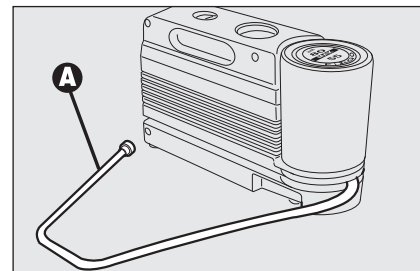
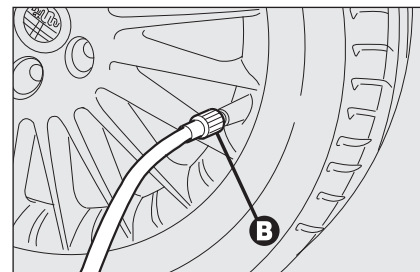

fig. 17
fig. 18
- loosen tyre inflation valve cap, take out the filler hose **A-fig. 17** and screw the ring nut **B-fig. 18** on the tyre valve;